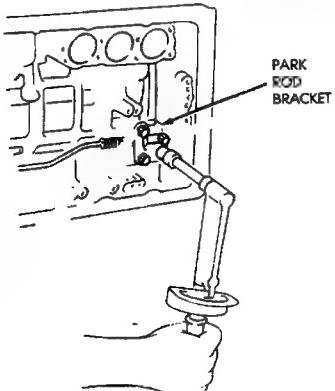

Fig. 36 Removing/Installing Park Rod Bracket
(1) Remove valve body as outlined in this section.
(2) Remove bolts attaching park rod bracket to case (Fig. 36).
- (8) Install park rod and bracket (Fig. 36). Tighten bracket bolts to 10 N·m (7 ft-lbs) torque.
- (9) Install valve body, oil screen and oil pan as outlined in this section.